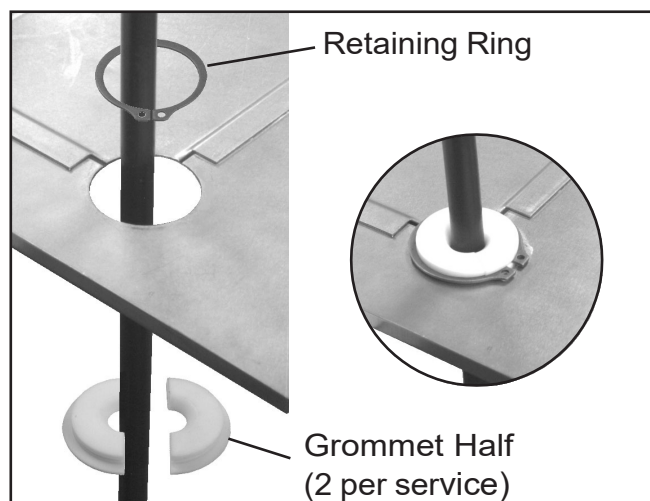

Figure 18
6. Install hose guide grommet(s) from front of cover plate and secure to cover plate assembly using retaining ring(s) (Figure 18).